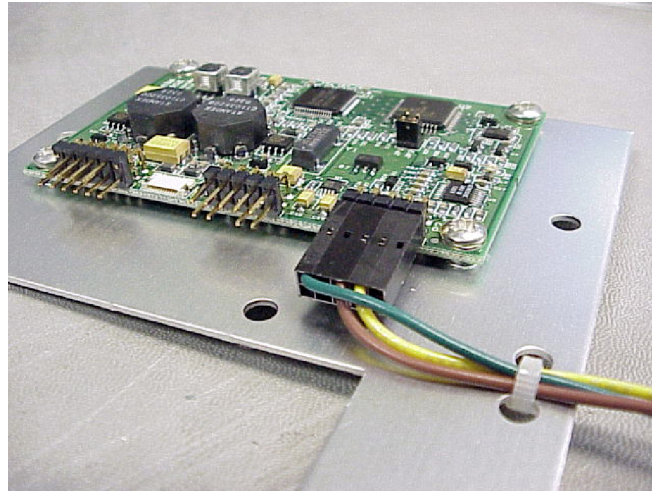

Figure 10: Connecting the RS232 cable to the Touch Panel Controller board
- c. Install the non-keyed end of the new RS232 cable (Tektronix part number 174-4948-xx) to the P2 connector on the Touch Panel Controller board. The cable connects to the top row of pins on the connector, with the yellow wire to the outside. See Figure 10.